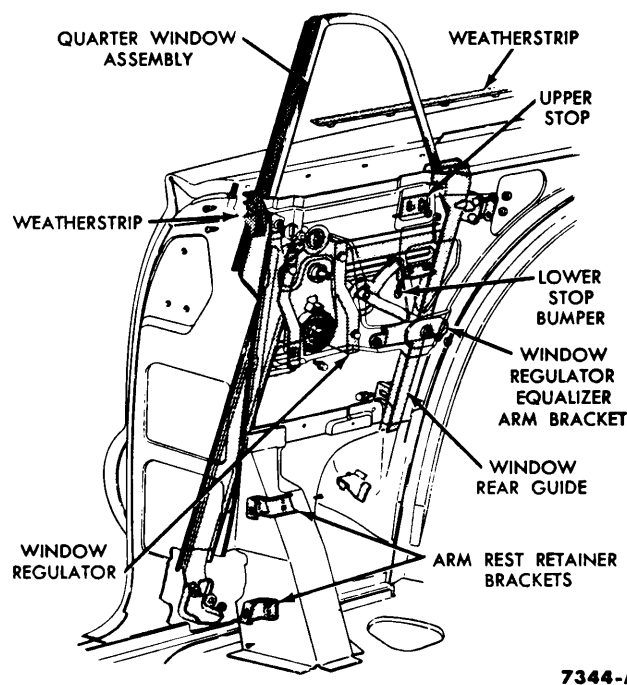

FIG. 8—Quarter Window Mechanism
4. Remove the quarter window stop retaining nuts and washers, and remove the window stop (Figs. 8 and 9).